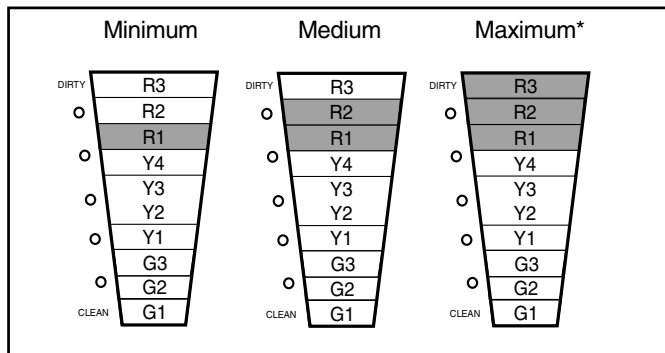

Figure 28 Red LED Power Level Settings
- The three RED LED's indicate the Power Level setting. The default is maximum. See Figure 28.
## FIELD CHARGER POWER LEVEL SETTING (Figure 28)